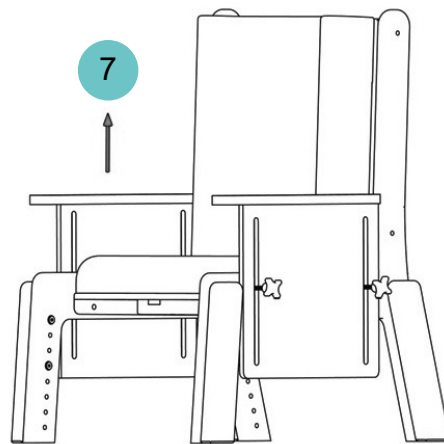

Figure 8
- Slide armrest to desired position. (Ref. 7 of Figure 8)